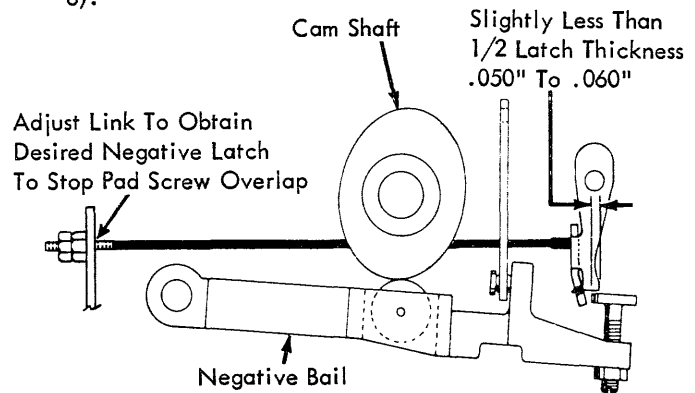

FIGURE 6. Negative Latch Link
8. Selector Latch Link - With the machine at rest adjust the negative 5 latch link so that the negative 5 latch will overlap the stop screw head by .050" to .060" (Fig. 6).
- The selector latch link adjustment (Fig. 6) must be correct before making the pusher to latch extension adjustment.